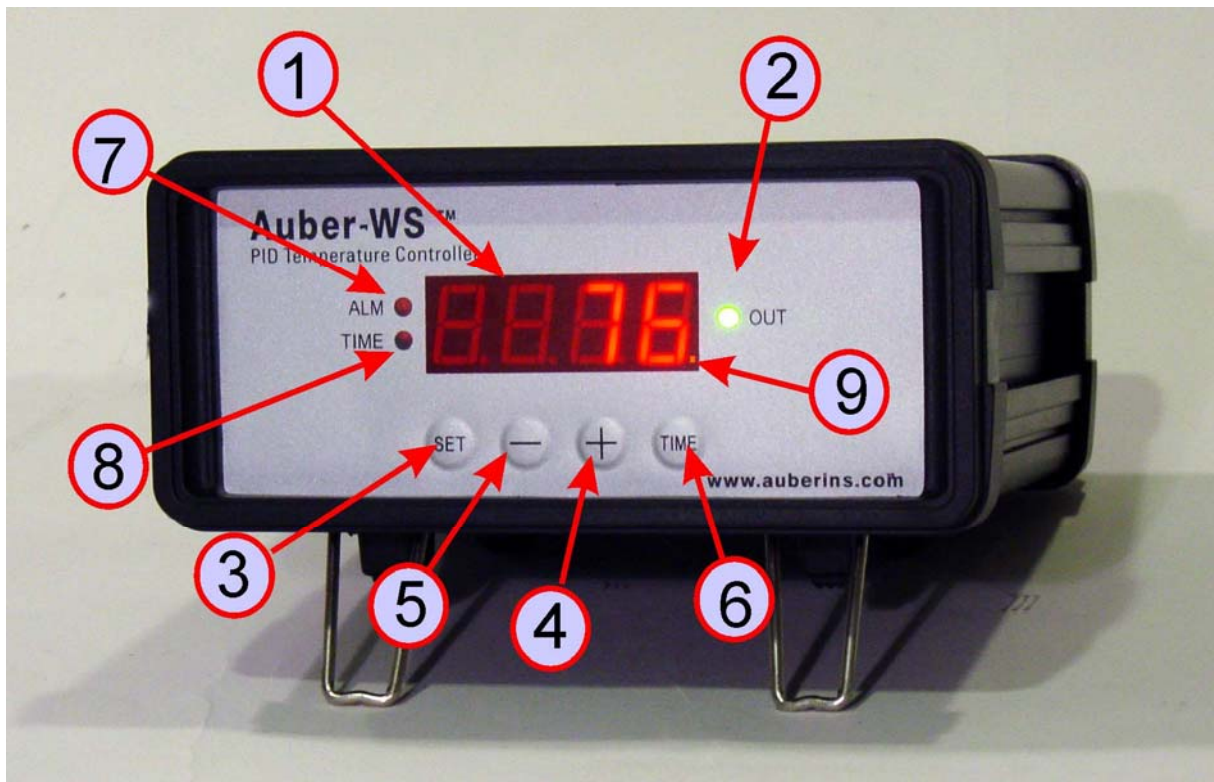

Figure 1. Front Panel.
The front panel of the controller is shown in Figure 1. The function of each item is described below:
At normal operating mode, press the “+” key (item 4 in Figure 1) to toggle the display window between the current temperature and the current step number at which the program is running (P-X). At time displaying mode, press the “Time” key to toggle the display between the total time (in minutes) since the controller was powered up and the time past in the current step. For example, the controller has been running for 100 minutes in total, but currently it is at step 2 for 40 minutes. So when you first press “+” key, controller will show “P-2” in the window. If then you press “Time” key, the controller will show “P 40” with the Time Indicator lit.
At normal operating mode, press the “Time” key (item 6 in Figure 1) once to toggle the LED window between the current temperature and the total time (in minutes) since the controller was powered up. The Time Indicator (item 8 in Figure 1) will lit at same time. When the time is being displayed, press the “+” key will toggle the display between the total running time and the running time of the current step. For example, the controller has been running for 100 minutes in total, but currently it is at step 2 for 40 minutes. So when you first press “Time” key, controller will show “100” in the window with the Time Indicator lit. If then you press “+” key, the controller will show “P 40” while the Time Indicator still lit.